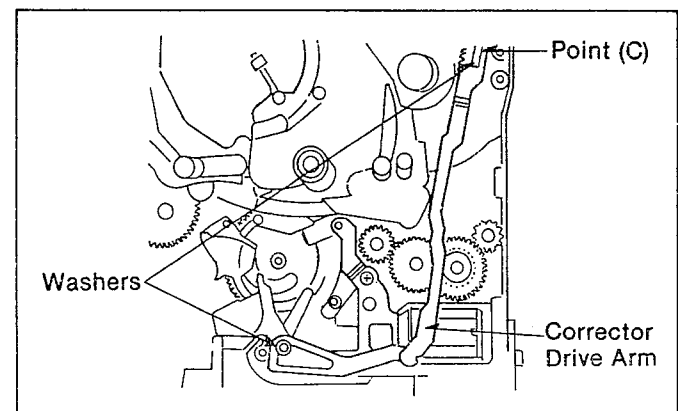

Fig. M30
- (1). Insert the washer to point c and install the Corrector Drive Arm. And then insert the Cut Washer as shown in Fig.M30.